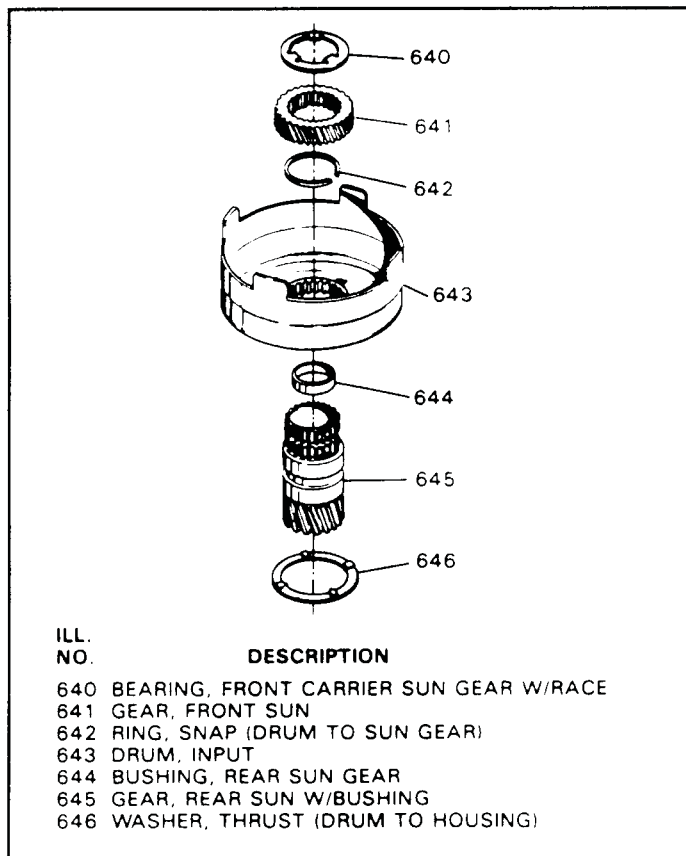

Figure 77
50. Install sun gear shell onto the rear ring gear, and install the snap ring (See Figure 77).
51. Install thrust washer (646) over sun gear and onto sun gear shell, and retain with "Trans-Jel", shown in Figure 77.
53. Install the front sun gear (641) by splining on the rear sun gear and insure it is against the snap ring (See Figure 77).